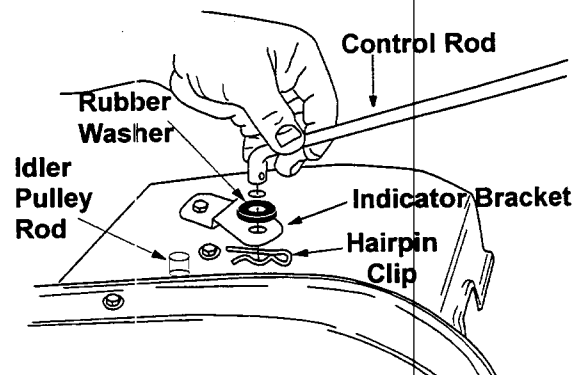

Figure 6
- Insert the shorter, (angled), end of the control rod through the indicator bracket on the shift cover and secure with hairpin clip that was removed in step 1. See Figure 6.